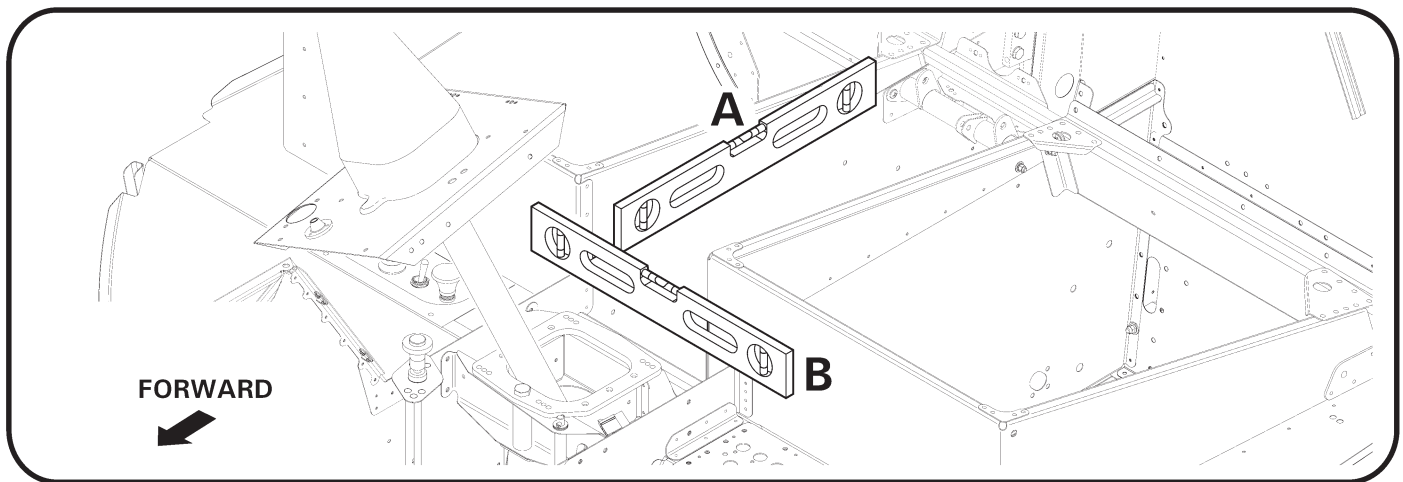

FIGURE 18-1 LEVELING AT KEEL PANELS
2. Place a bubble level on top edge of right keel panel per Figure 18-1 Detail A.
4. Place a bubble level across two keel panels per Figure 18-1 Detail B.